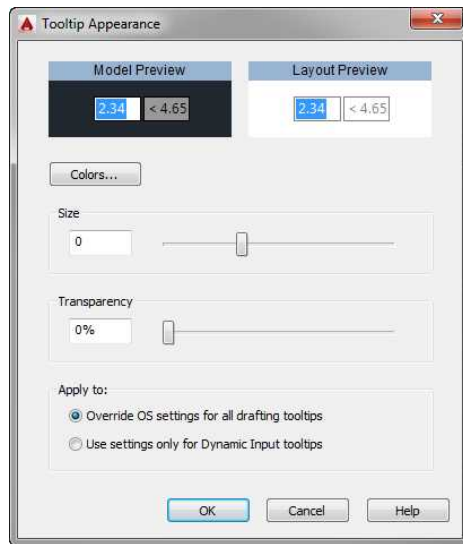

FIGURE 3.19: The Tooltip Appearance dialog box
8. Below the Dynamic Prompts group of the Drafting Settings dialog box, click the Drafting Tooltip Appearance button to open the Tooltip Appearance dialog box (see Figure 3.19).